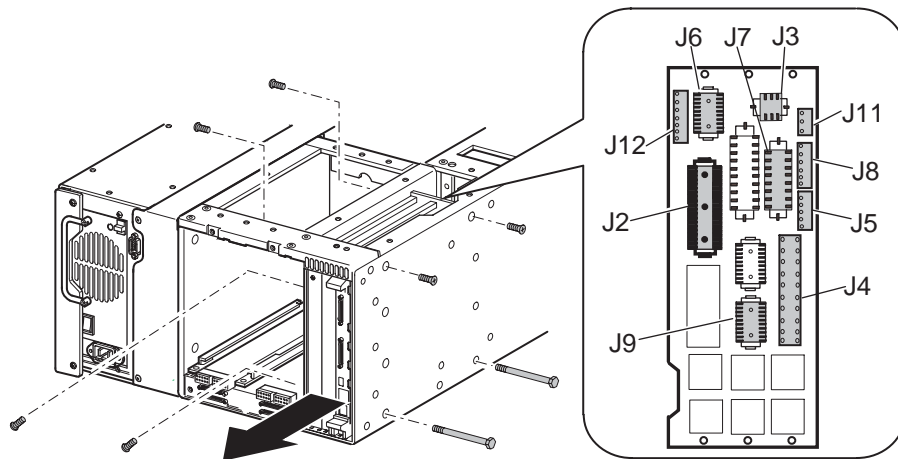

Figure 2-26: Removing the card cage/backplane assembly
11. From outside the chassis remove the two flat-head screws at the top of the card cage/backplane assembly (see Figure 2-26).
12. From inside the drive bay remove the two flat-head screws at the top of the card cage (see Figure 2-26).
13. From outside the chassis remove the two flat-head through-bolts at the bottom of the card cage (see Figure 2-26)
14. Remove the screw that secures the card cage/backplane assembly board stiffener to the library chassis (see Figure 2-26).
15. With the card cage loose and working from inside the tape drive bay at the top, remove the cables from J2-J9 and J11 and J12 on the backplane (see Figure 2-26).
17. From inside the card cage, support the grounding strip plate and spacer and then remove the two flat-head mounting screws from inside the tape drive bay. Remove the grounding strip plate and spacer (see Figure 2-26).
2. Slide the card cage/backplane assembly about halfway into the opening (see Figure 2-26).
4. From inside the tape drive bay, replace the two flat-head mounting screws (see Figure 2-26).
6. With the card cage/backplane assembly still loose, replace the cables J2-J9, and J11 and J12 on the backplane (see Figure 2-26).
7. From inside the drive bay, replace the two flat-head screws at the top of the card cage (see Figure 2-26).
8. From outside the library chassis, replace the two flat-head screws at the top of the card cage/backplane assembly and the two flat-head through-bolts at the bottom of the card cage/backplane assembly (see Figure 2-26).
9. From inside the tape drive bay, replace the two flat-head screws at the top of the card cage (see Figure 2-26).